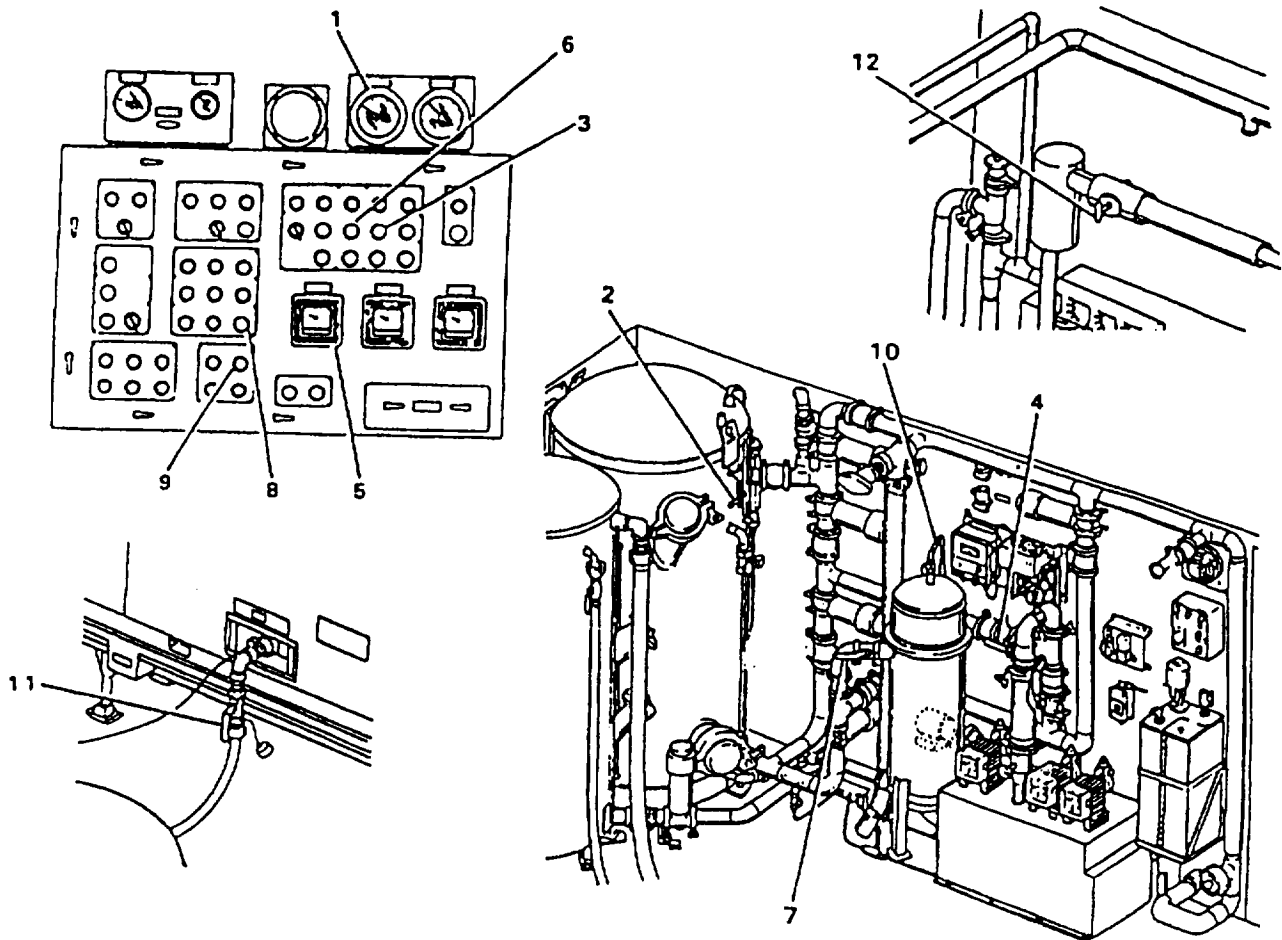

Figure 2-42. Start-Up Procedures
- (2) Start-up procedures (Figure 2-42).